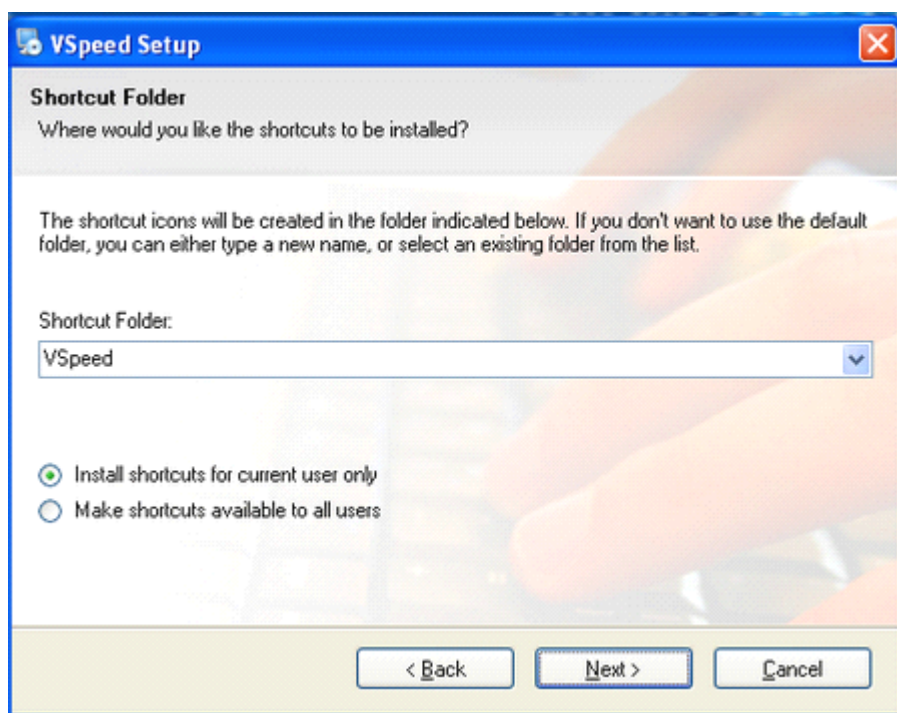
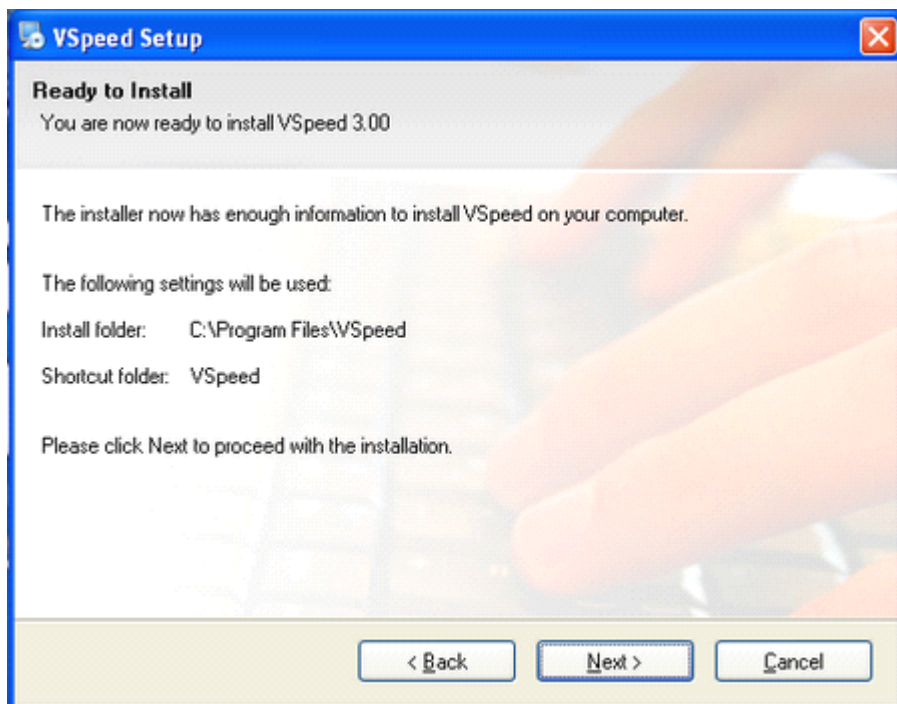
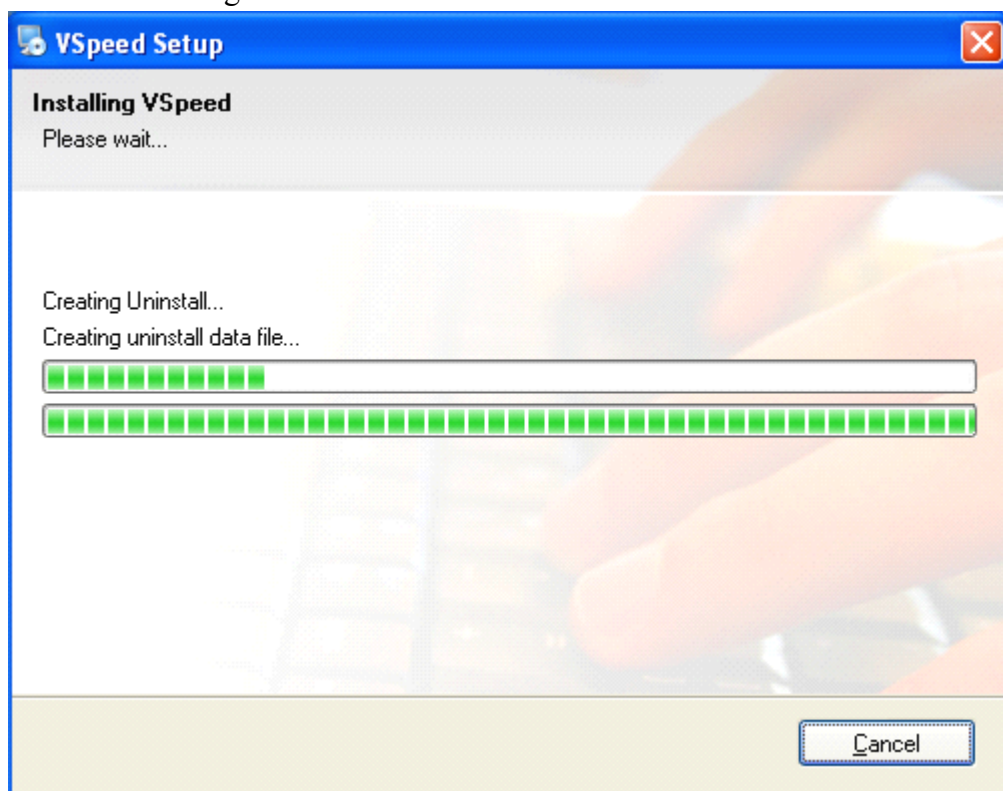

Figure 4: VSpeed Setup Specify Shortcut Folder
Figure 5: VSpeed Setup Ready to install
Figure 6: VSpeed Setup Installing...
(4) When the window come into an Figure 4, you can specify the Shortcut Folder or accept the Default. Click the "Next" button the window change as Figure 5.
(5) Now all the informations are ready to install.
In the Figure 5, you can click “Back” button to change some information. And you can click the button “Next” to go on if you accept all of these. The installation is launching if you click the “Next”. It will show as Figure 6.